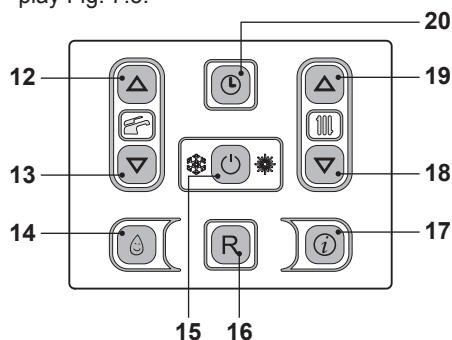

Fig. 7.5
- Press the 15 key for 2 seconds until both  and  symbols appear on the display Fig. 7.5.
- Switch off the boiler by pressing the 15 (Fig. 7.5) key for 2 seconds until the  symbol appears on the LCD display (Fig. 7.4).